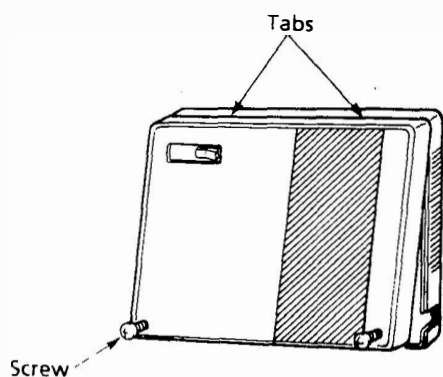

Figure 200-16 Replacing the KSU Cover
- Hook the KSU cover with the tabs on top of the base, and tighten the two screws. Refer to Figure 200-16 Replacing the KSU Cover.